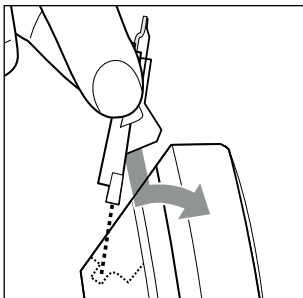

Fig. 10
- 2) Remove hair residue from the shaving head ❶ with the cleaning brush ❹ (supplied).
- 3) Clean the shaving head ❶ under running water. Do not use any other liquids for cleaning.
- 4) Allow the shaving head ❶ to dry.
- 5) Add a few drops of the supplied blade oil ❷ to the cutting blade of the shaving head ❶ and distribute it evenly. Wipe off any excess oil with a soft cloth.
- 6) Guide the nose of the shaving head **1** under the rear edge of the housing. Press the shaving head **1** down into the notch and then tip it forward until it audibly engages in the appliance (see fig. 10).